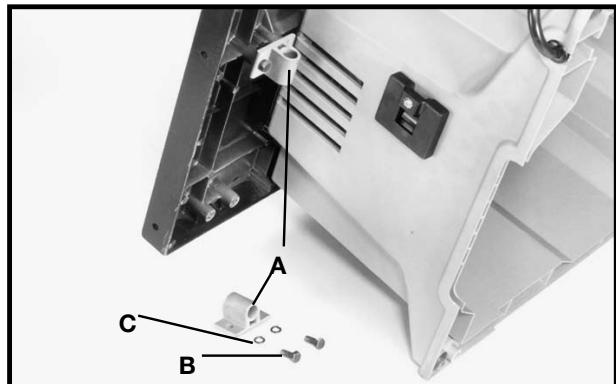

Fig. 29
1. LOOSELY fasten both brackets (A) Fig. 29, to the bottom left side of the saw table as shown, using two M6x1x15mm phillips hex head screws (B) and M6.1 lockwashers (C). Assemble two remaining brackets to the bottom right side of saw table in the same manner.